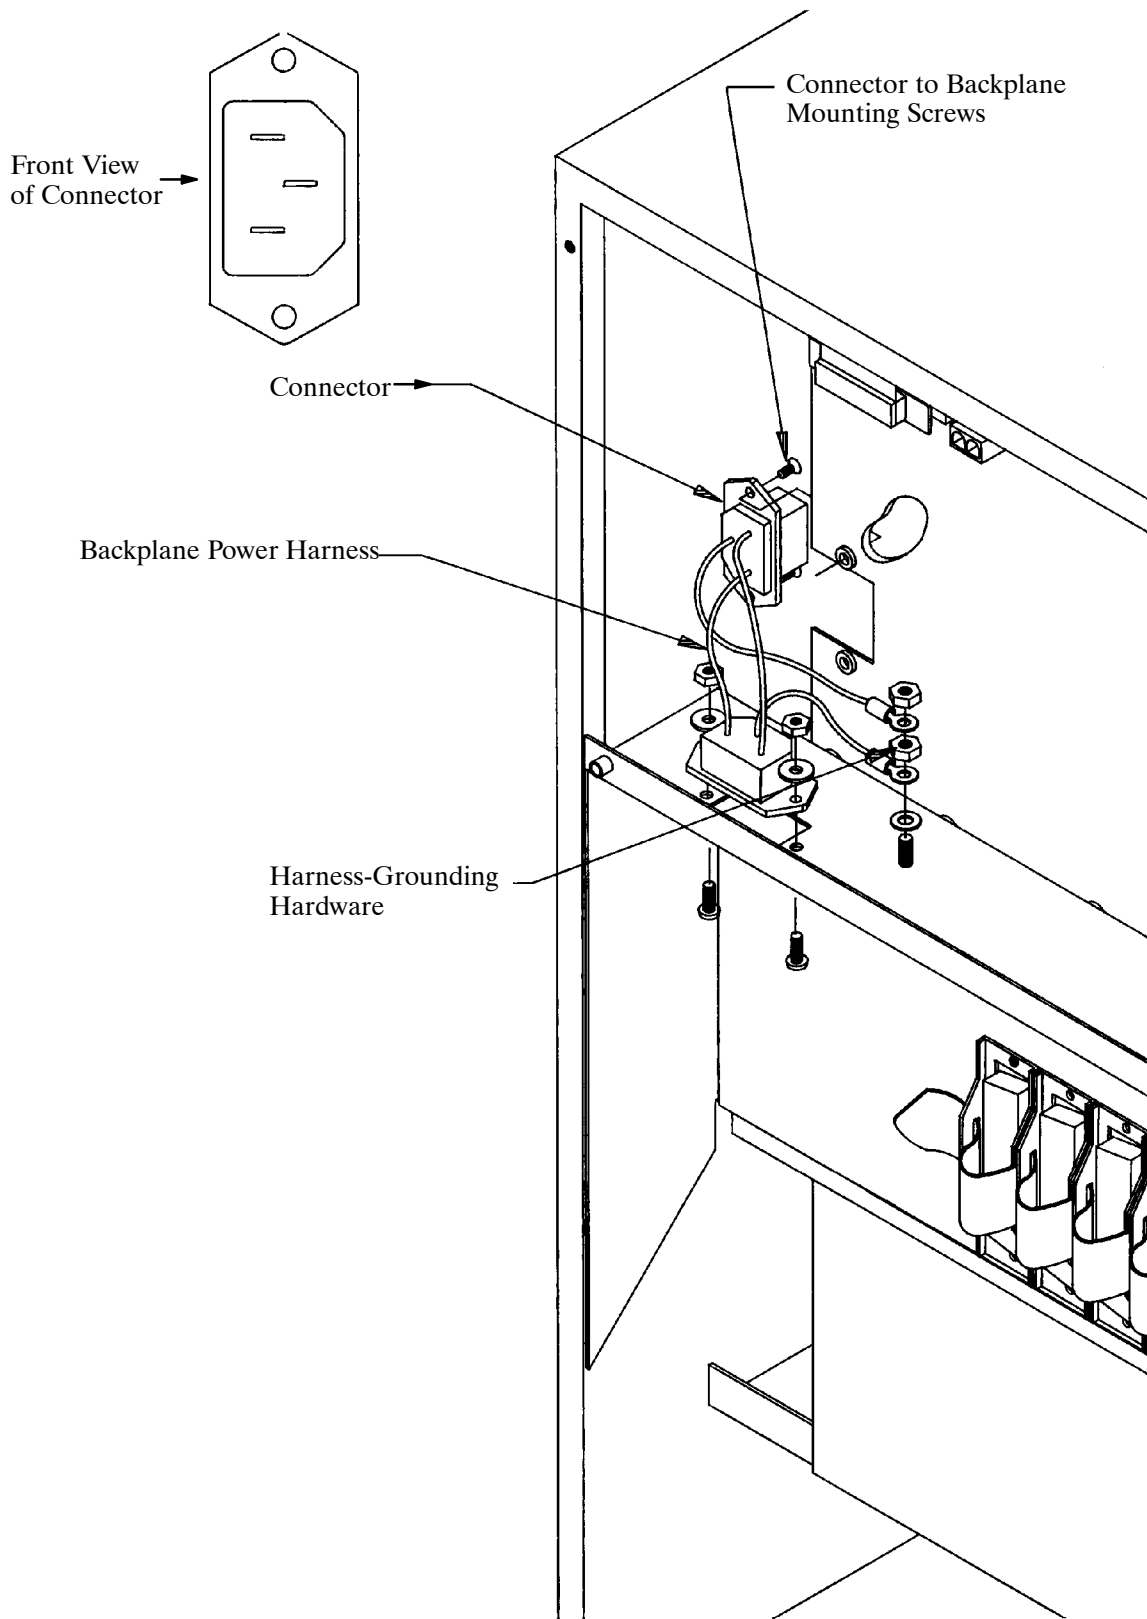

Figure 9-26 A.C. Backplane Power Harness Installation for Octel 200
6. Remove the AC backplane harness by removing the two screws that hold the connector in the backplane, as shown in Figure 9-26. These screws can be accessed through the front of the cabinet. Remove the hardware that secures the ground wires and the connector from the I/O panel. Pull the harness out of the message server.
Figure 9-26 for the AC Backplane Power Harness